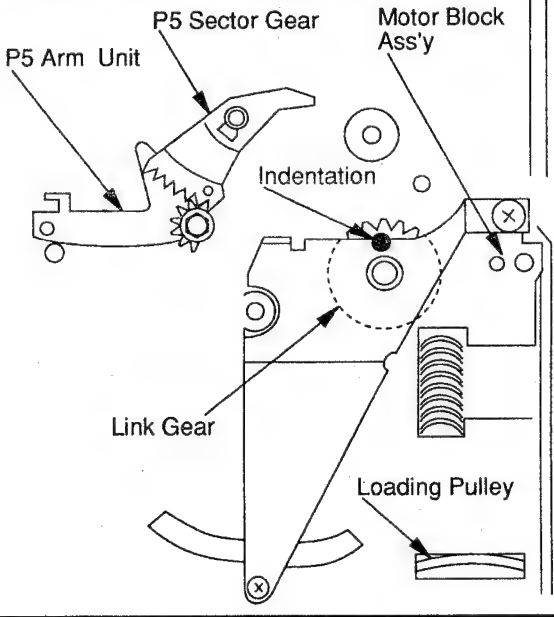

Fig. A1
1. The position of the Indentation on the Link Gear, after removing the Cassette Up Ass'y with the Motor Block Ass'y in the Eject Position, is shown in Fig. A1.